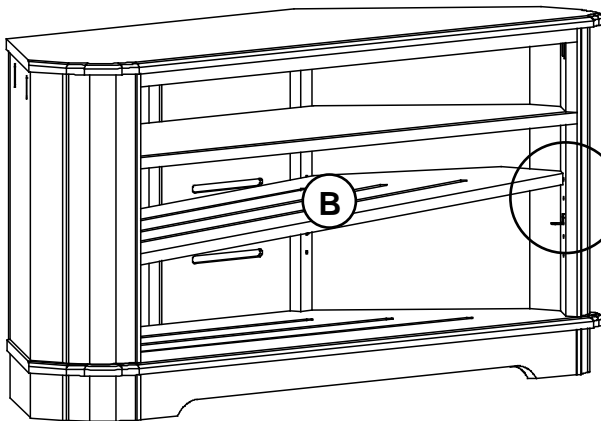

Fig. 4
4. To move the Adjustable Shelf (B), remove the #6 x 1/2" Undercut Screws (L) and the Shelf (B). Reposition the Shelf Brackets (ZA) to the desired positions, replace the shelf and insert the screws. See Figures 4 and 4a.